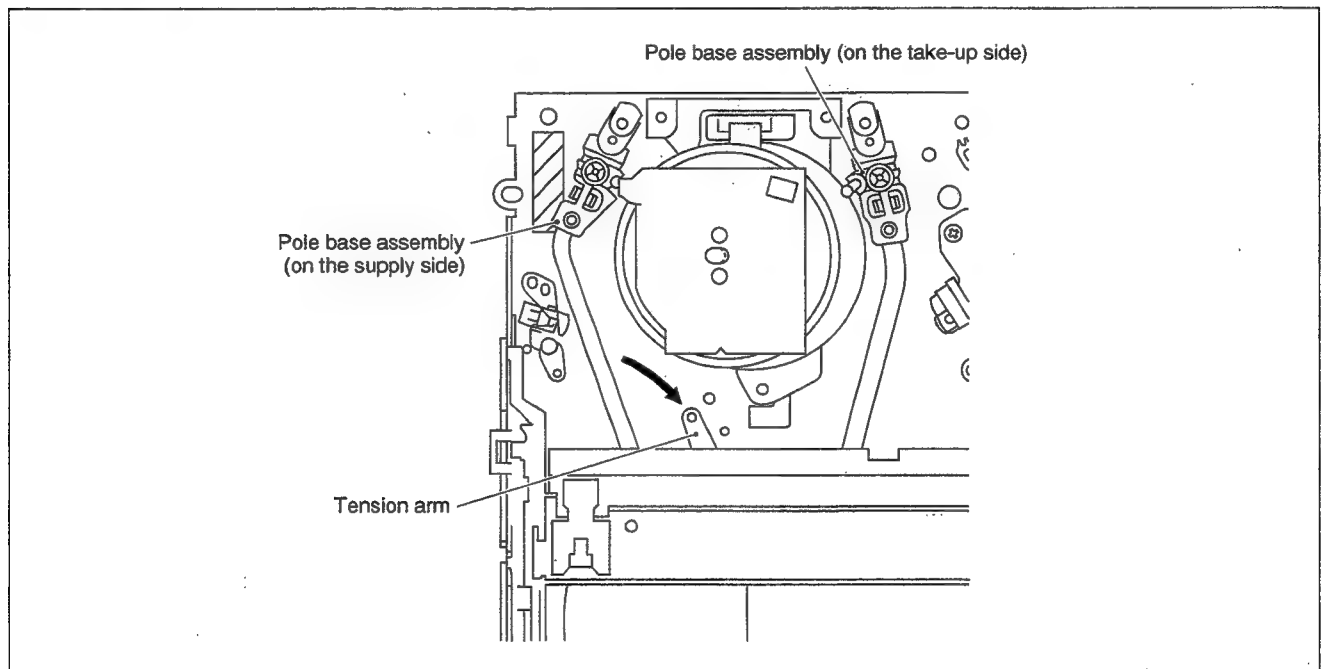

Fig. 2-1-3
- (1) Unplug the power cable and remove the top cover, bracket and front panel assembly (See 1.3 DISASSEMBLY/ASSEMBLY METHOD).
- (2) While keeping the tension arm of the main deck assembly free from tension, pull the tape on the pole base assembly out of the guide roller (on the supply or take-up side) (See Fig.2-1-3).